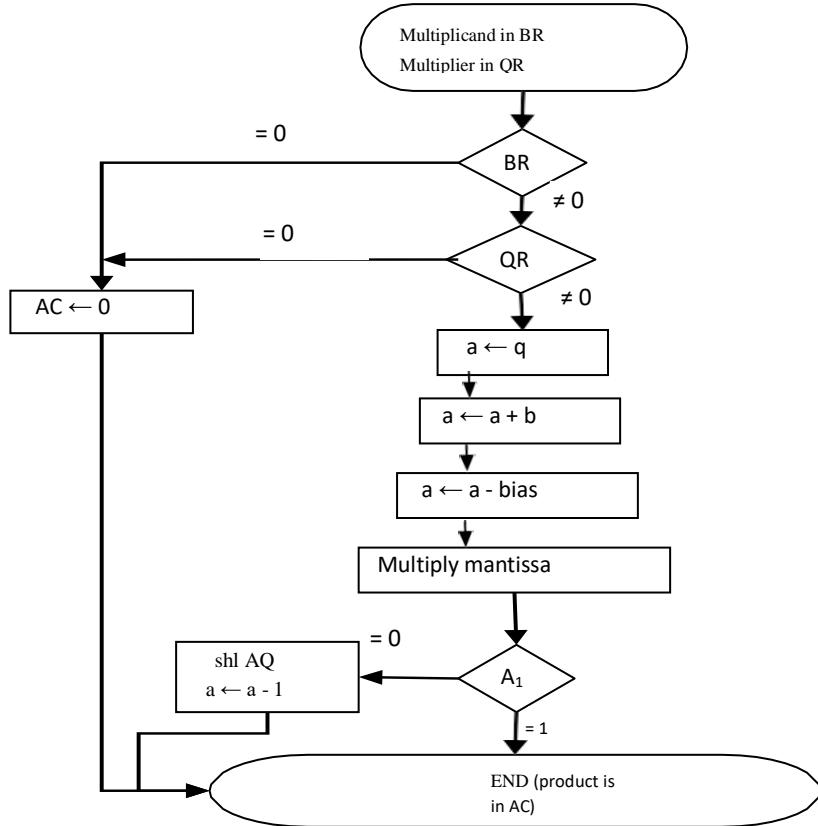

Figure 7.4: Multiplication of floating-point numbers
- The flowchart for floating-point multiplication is shown in Figure 7.4. The two operands are checked to determine if they contain a zero.